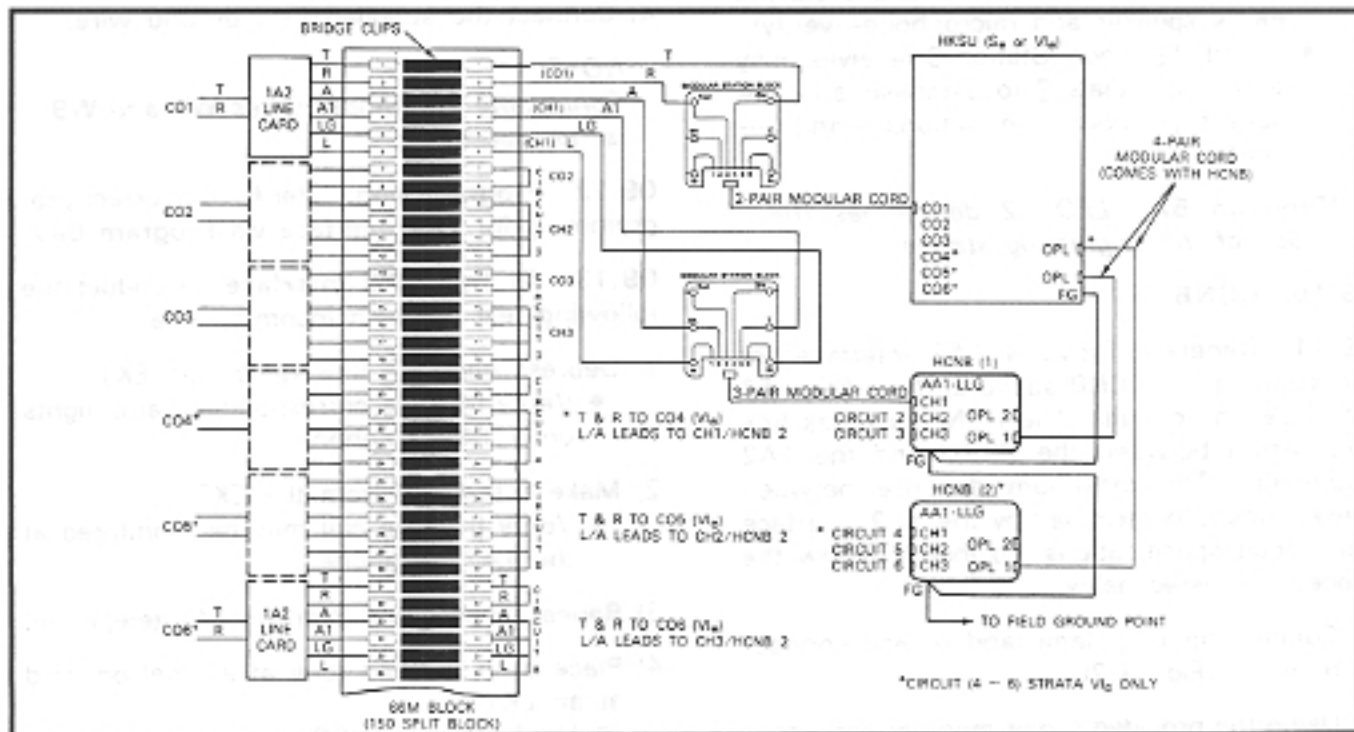

FIGURE 26—HCNB CONNECTIONS
- 1) Connect tip/ring, lamp and A lead connections per Figure 26.